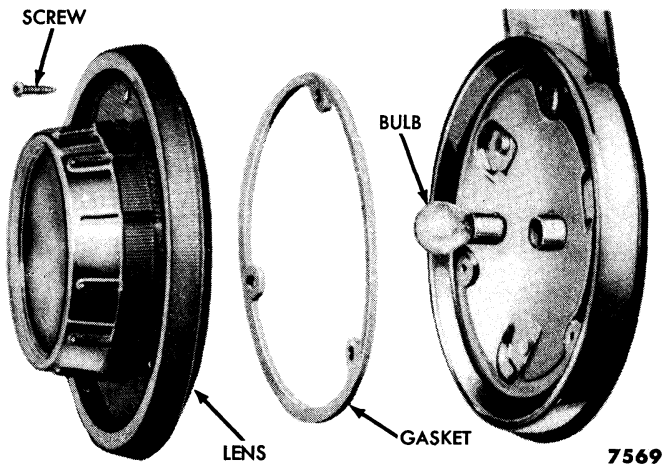

Fig. 8—Tail and Stoplight—Disassembled
Replacement of bulbs in the lighting system is illustrated in figs. 8 through 13. These illustrations cover headlights, roadlights, spotlights, parking lights, tail, stop, and license plate lights, domelights, and instrument lights.
(3) **TAIL AND STOP LIGHT, AND LICENSE PLATE LIGHTS.** The tail and stop light is shown disassembled in fig. 8. To replace the bulb, remove the retaining screws, lens, and gasket.